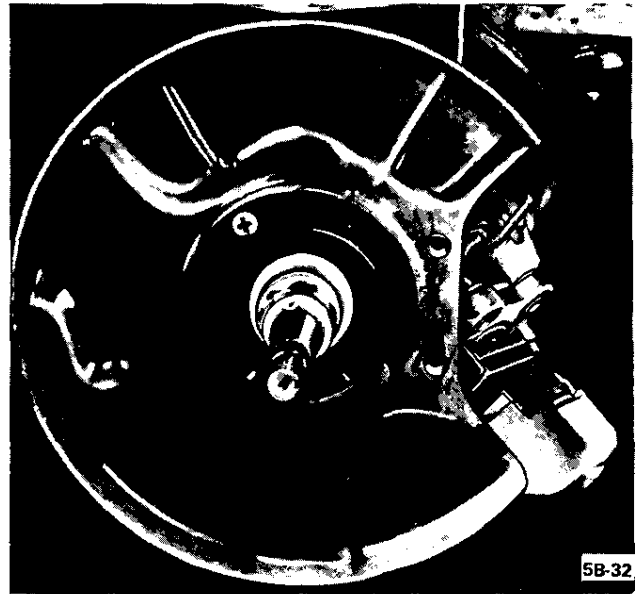

Figure 5B-32 Brake Disc Shield Attached to Steering Knuckle
3. Replace one Phillips head screw on outside of disc. See Figure 5B-32.